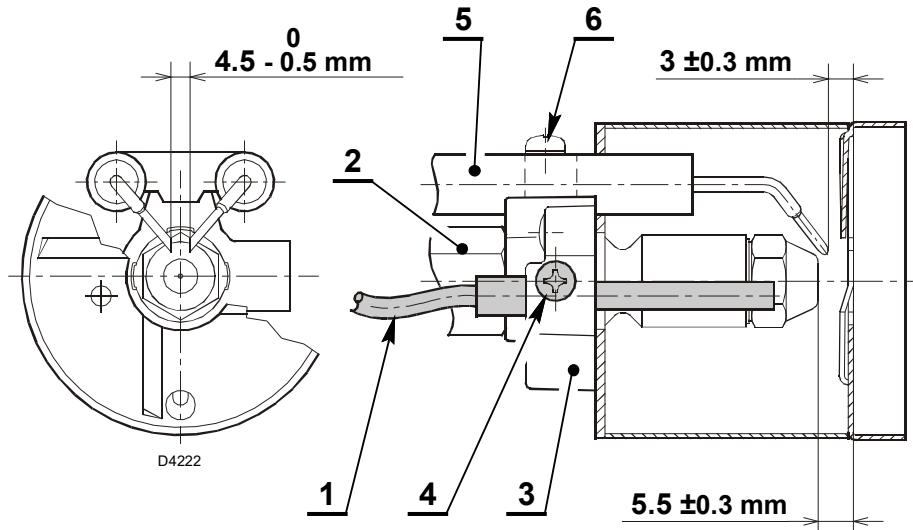

Fig. 12
These dimensions Fig. 12 must be respected.
- rest the diffuser disc-holder assembly 3)(Fig. 12) against the nozzle holder 2)(Fig. 12) and lock it in place with the screw 4)(Fig. 12).
- For any adjustments of the electrodes assembly 5), loosen screw 6)(Fig. 12).
- insert the optical fiber 1)(Fig. 12) into the diffuser disc-holder assembly (3) making sure it goes all the way in.
- Carefully tighten the screw 4)(Fig. 12) to lock the optical fiber 1)(Fig. 12).